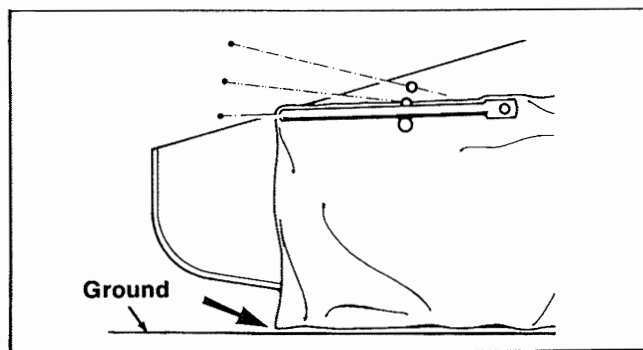

Fig. 25
6. The Cutterbar Protective Sheet should be adjusted so that it just touches the ground (Fig. 25).